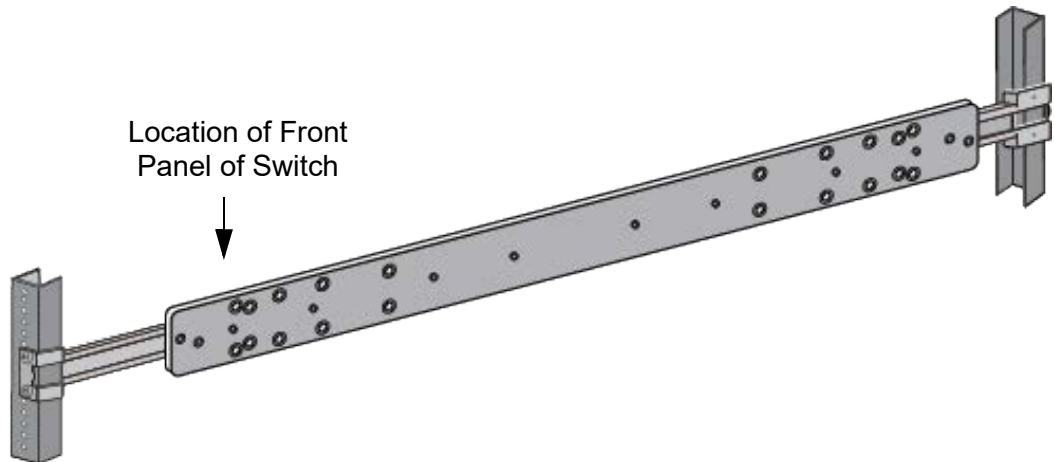

Figure 110. Example of Positioning the Inner Rail
2. Position the inner rail at the planned location for the front panel of switch in the sliding rack. Refer to Figure 110.